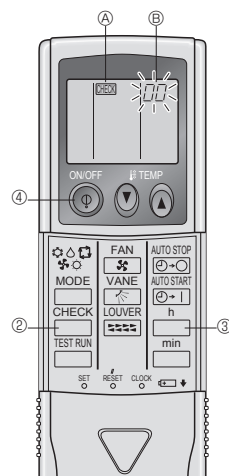

Fig. 7-4
7.3.2. Wireless remote controller (Fig. 7-4)
- ① Turn on the power.
- ② Press the button twice.